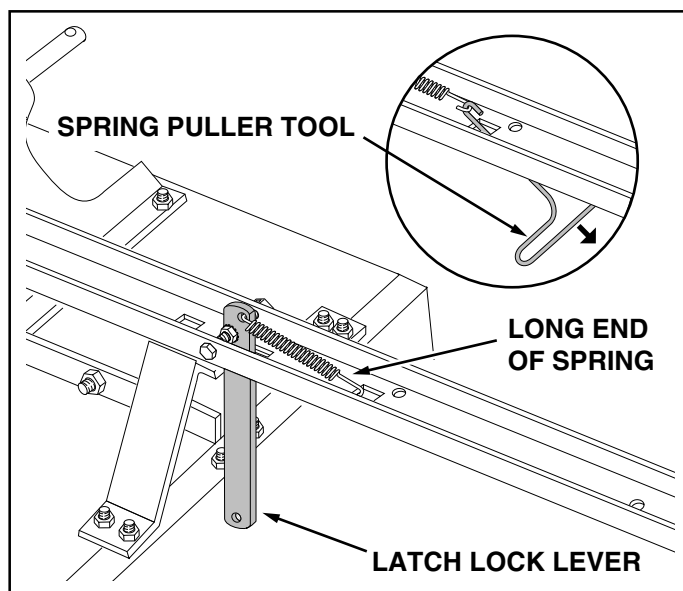

FIGURE 11
19. Hook the **short** end of the spring into the hole in the latch lock lever. Use the spring puller tool to hook the **long** end of the spring into the square hole in the tongue. The spring puller tool can be stored when finished. See figure 11.